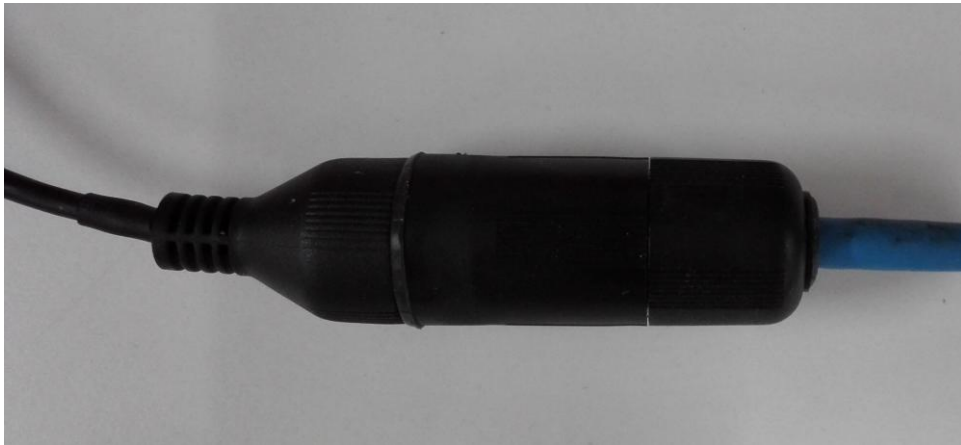

Figure 3-9
5) After the connection, you can see the following interface. See Figure 3-9.